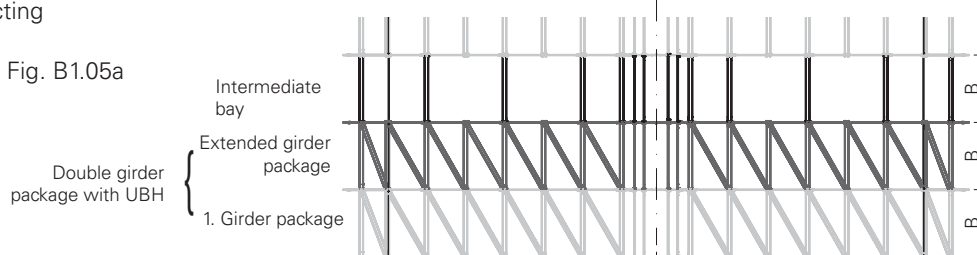

Fig. B1.05b
- double girder package (Fig. B1.05b)